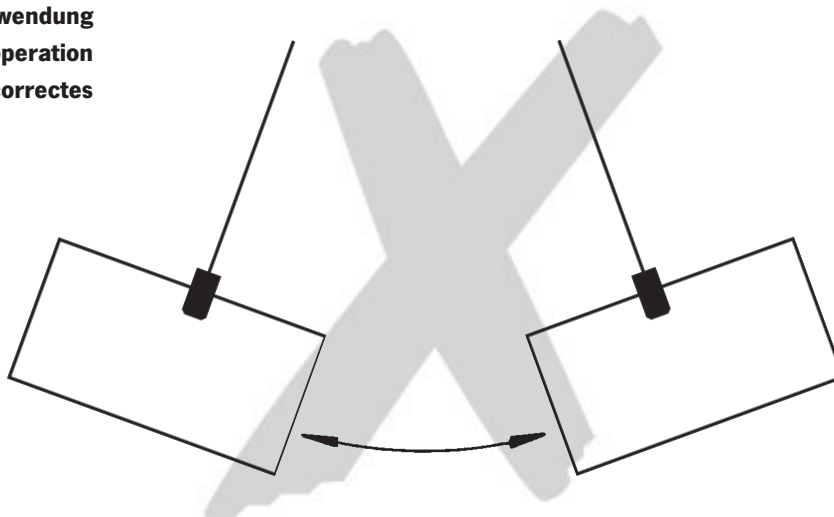

Fig. 1
- When transporting loads ensure that the load does not swing (Fig. 1) or come into contact with other objects.